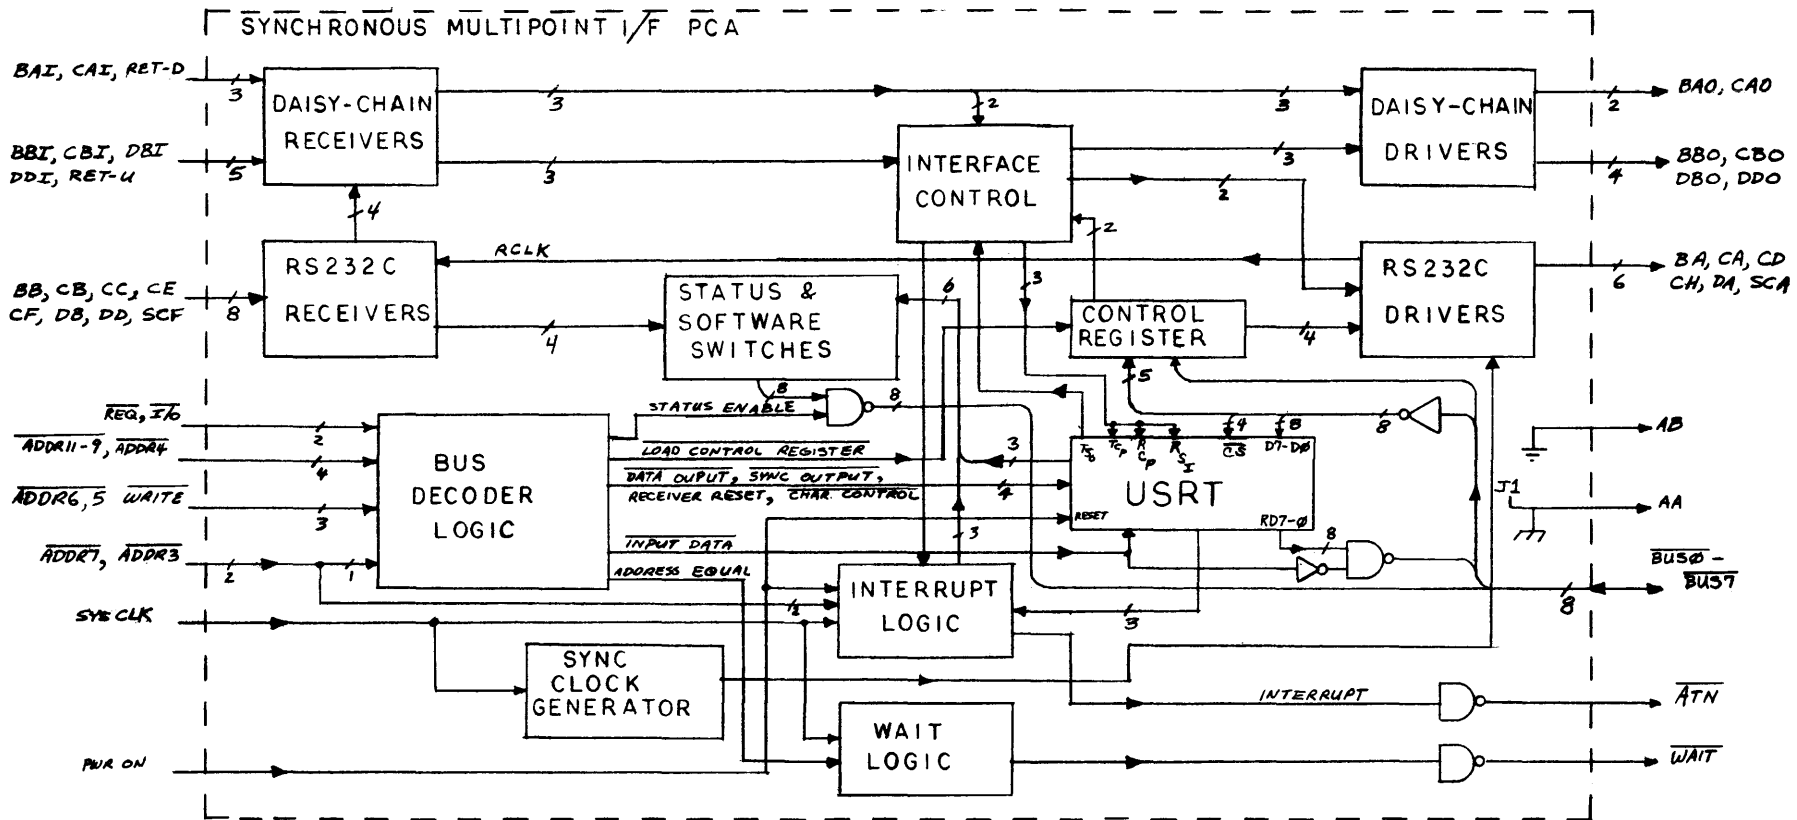
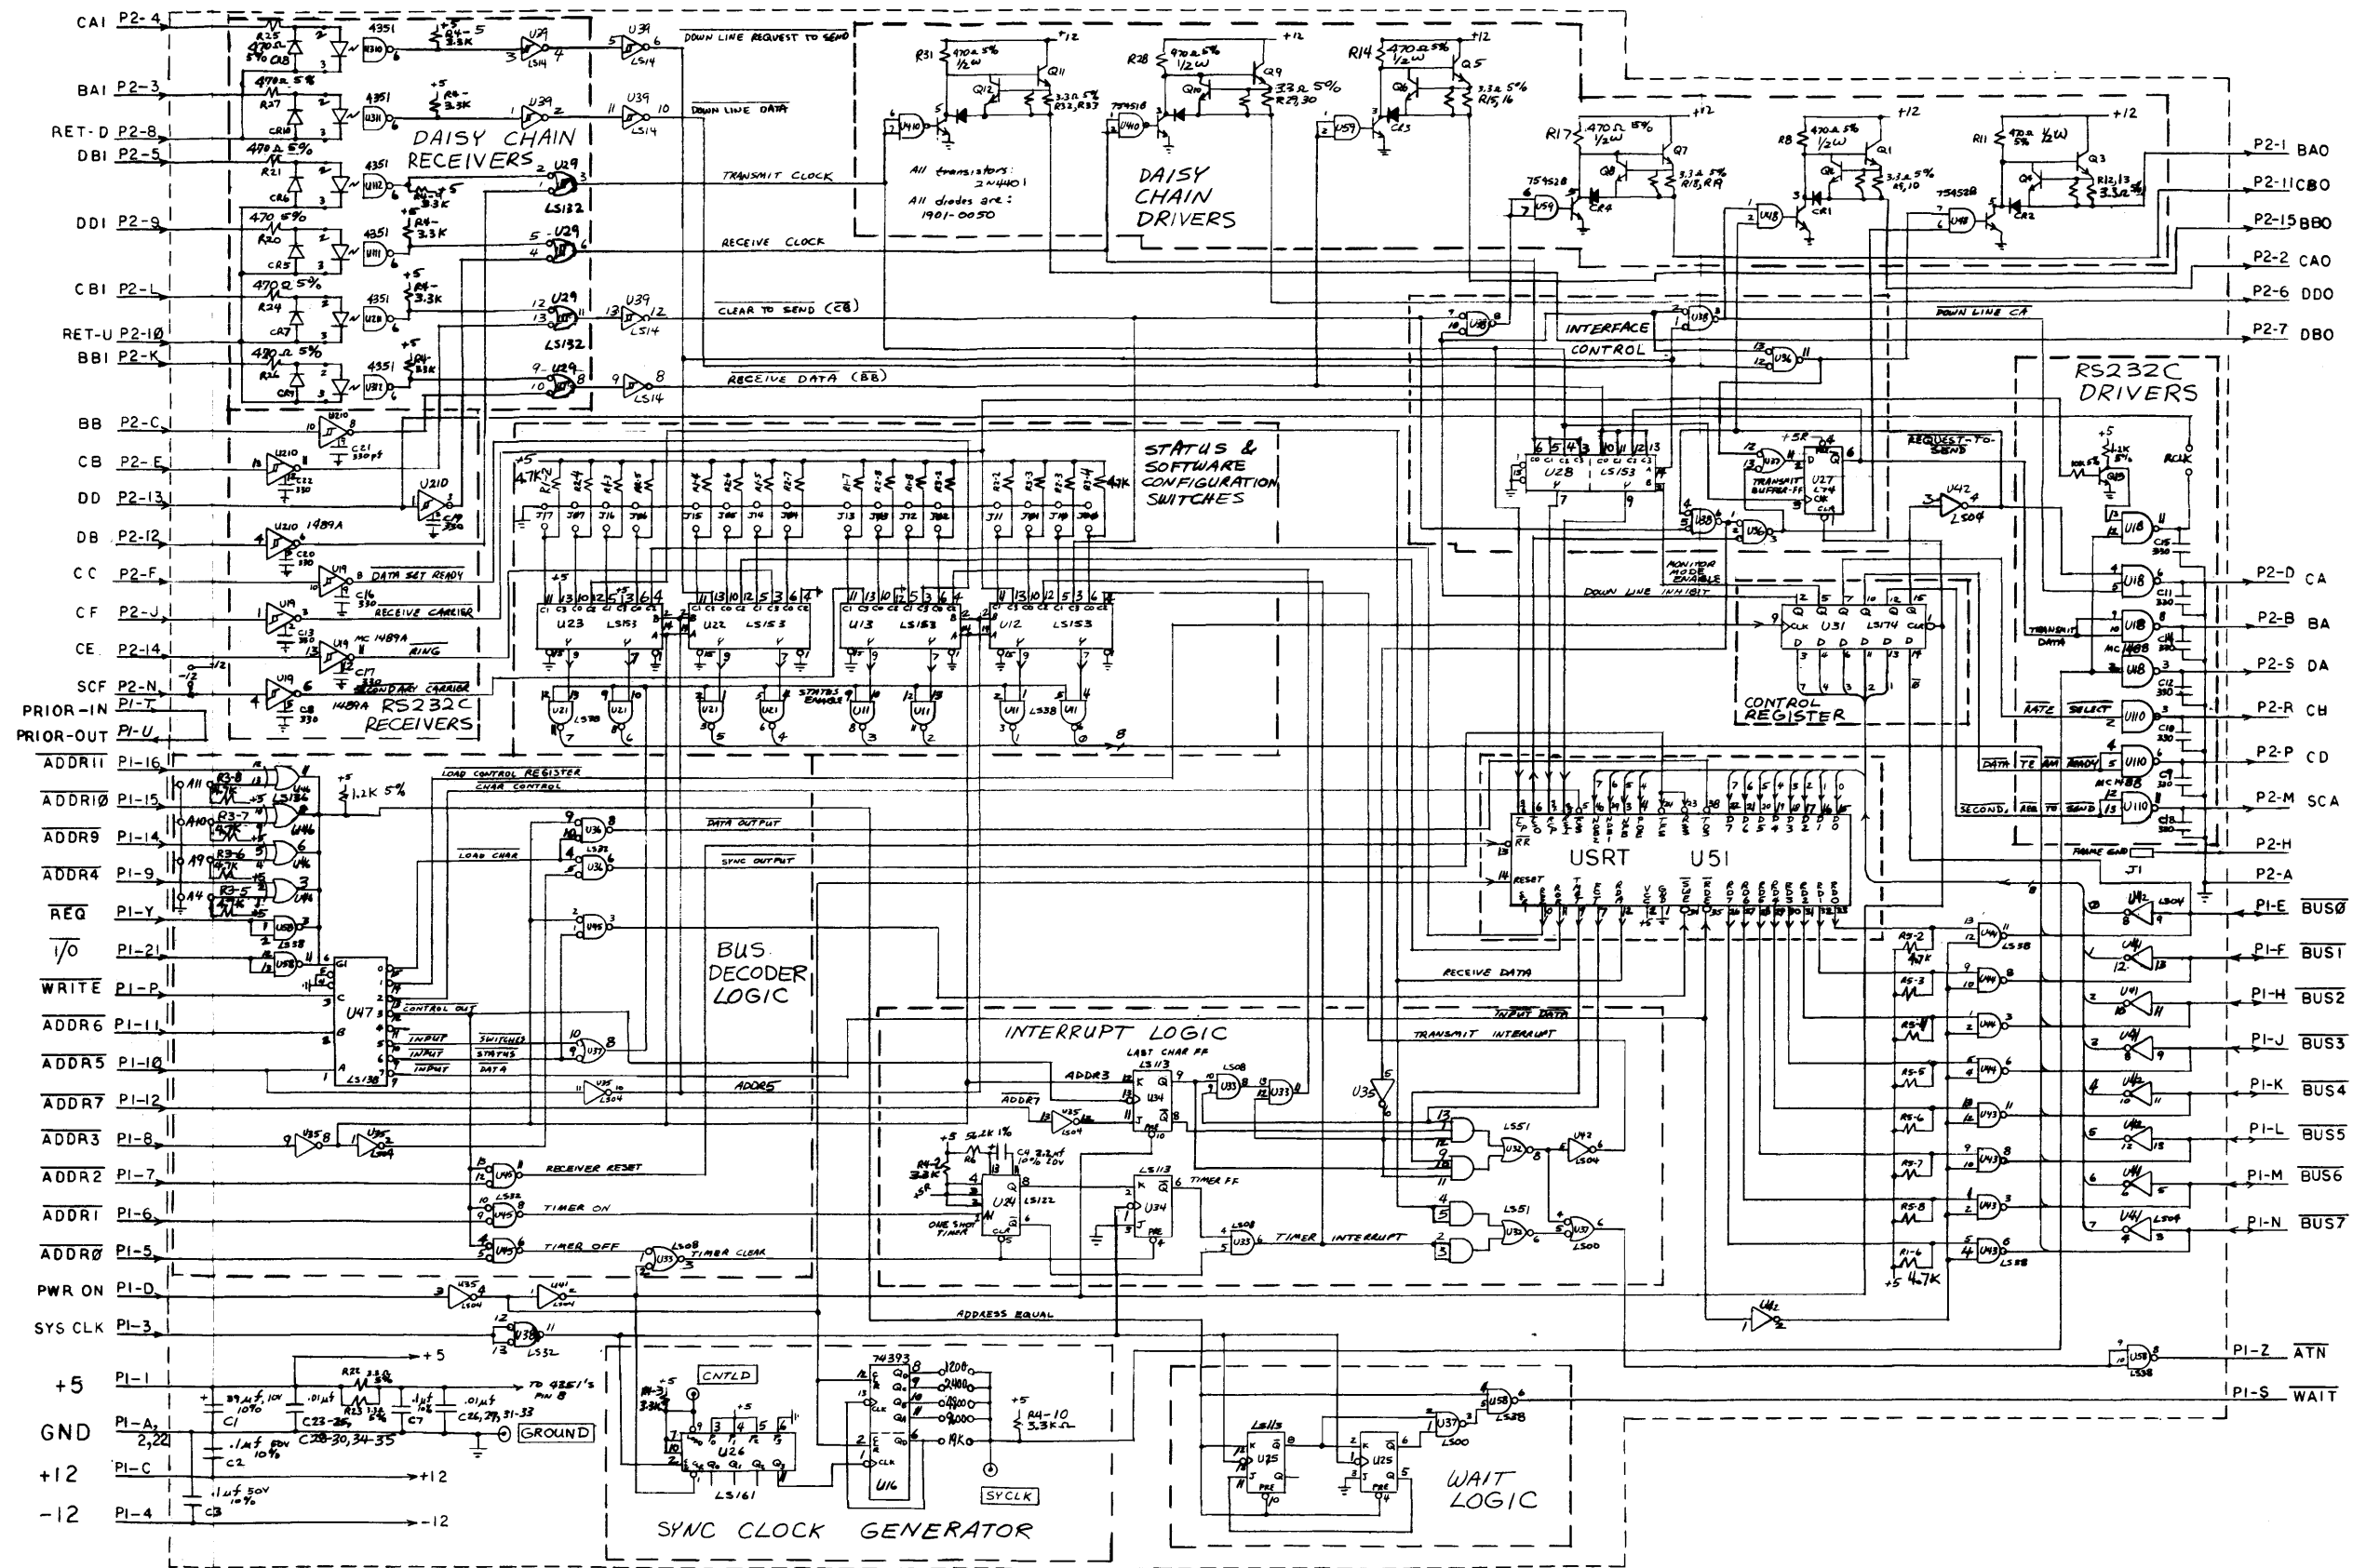
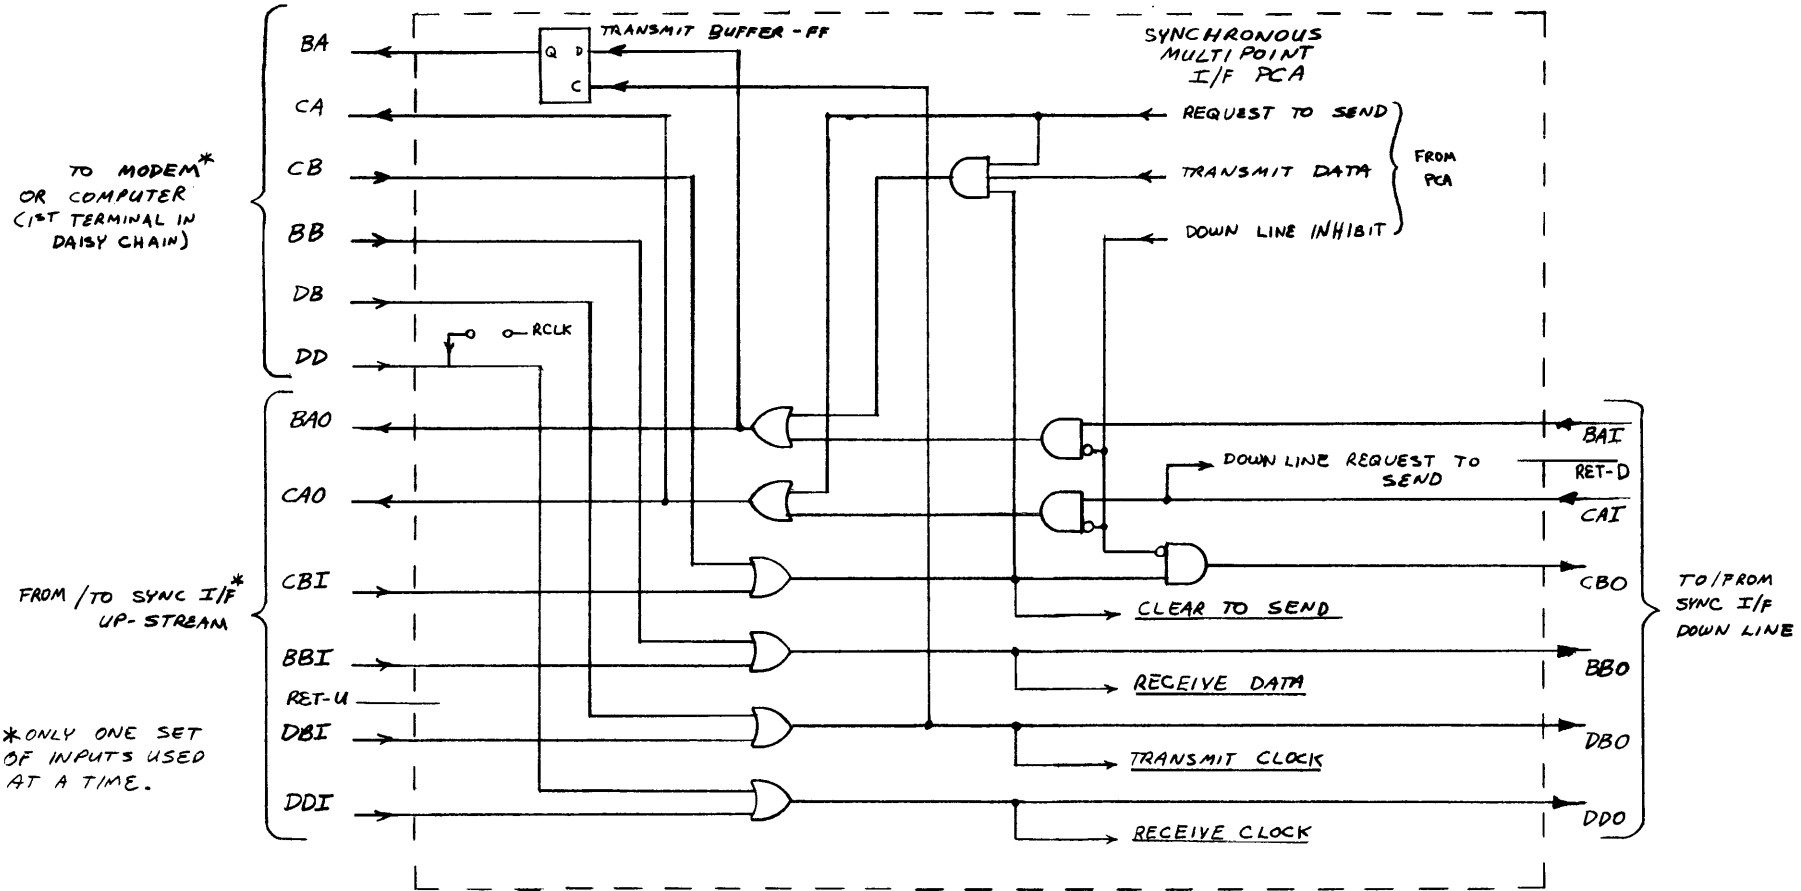
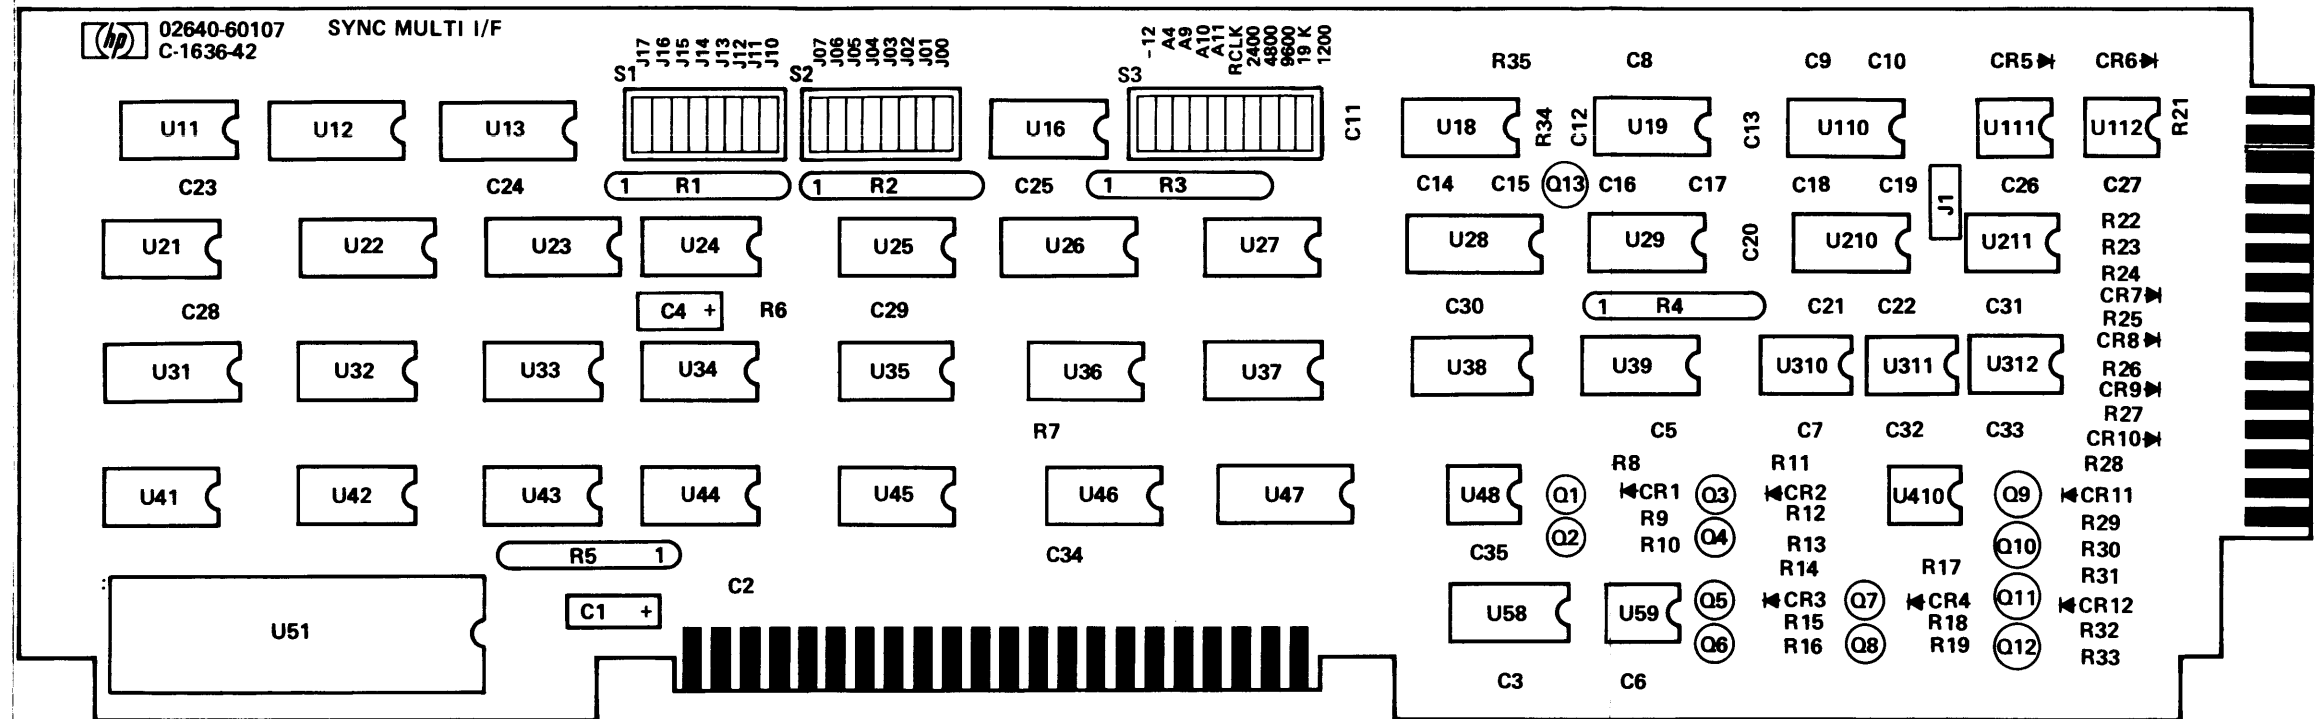

Figure 1
Figure 2
Figure 3
Figure 4
- 3.0 FUNCTIONAL DESCRIPTION. Refer to the block diagram (figure 1), schematic diagram (figure 2), typical daisy-chain connection (figure 3), components location diagram (figure 4), and the parts list (02640-60107) located in the appendix.
The RS232C compatible interface has eight inputs which are buffered by integrated circuit receivers (U19 and U210). Four of the input signals (CC, CF, CE, and SCF) go directly to the status multiplexers and are used by the software for modem control. The other four RS232C inputs (BB, CB, DB, and DD) are logically ORed with the daisy-chain receivers. Normally, the first terminal in a daisy-chain connection of 264X terminals with Synchronous PCA's will receive RS232C signals while the daisy-chain receivers are not connected. The PCA then buffers all the signals and sends them down the daisy-chain and the other RS232C interfaces will be unconnected and the daisy-chain receivers will be active. Refer to figure 3 for typical connection of daisy-chain signals.